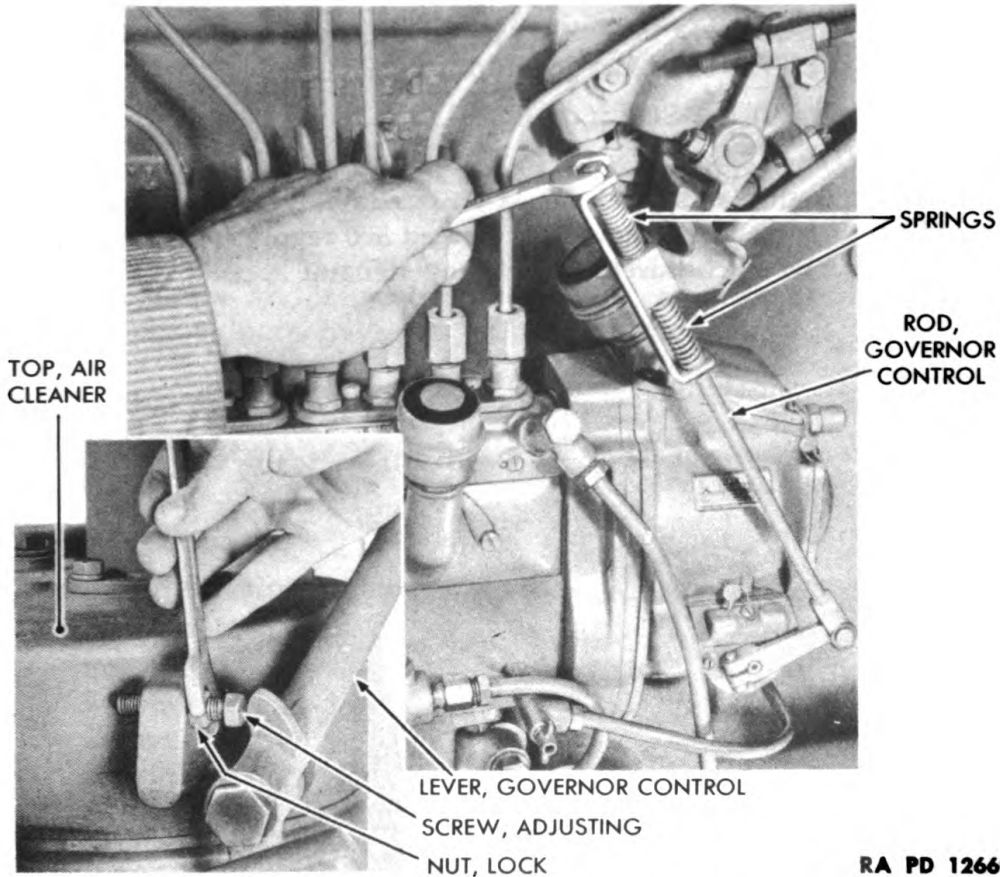

Figure 193—Adjusting Governor Control Rod Springs and Stop Screw
(4) PLACE THROTTLE LEVER IN STOP POSITION (fig. 193).
(5) ADJUST GOVERNOR CONTROL ROD SPRINGS (fig. 193).